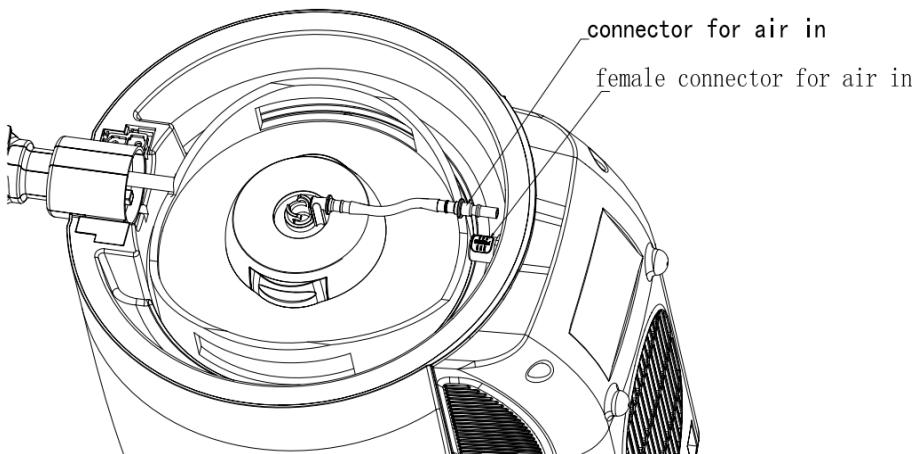

FIGURE 8
10. Insert the quick air inlet connector at the end of the beer pipe on the beer valve device into the quick air inlet socket, and you can hear a slight click to indicate that it has been connected (as shown in Figure 8).